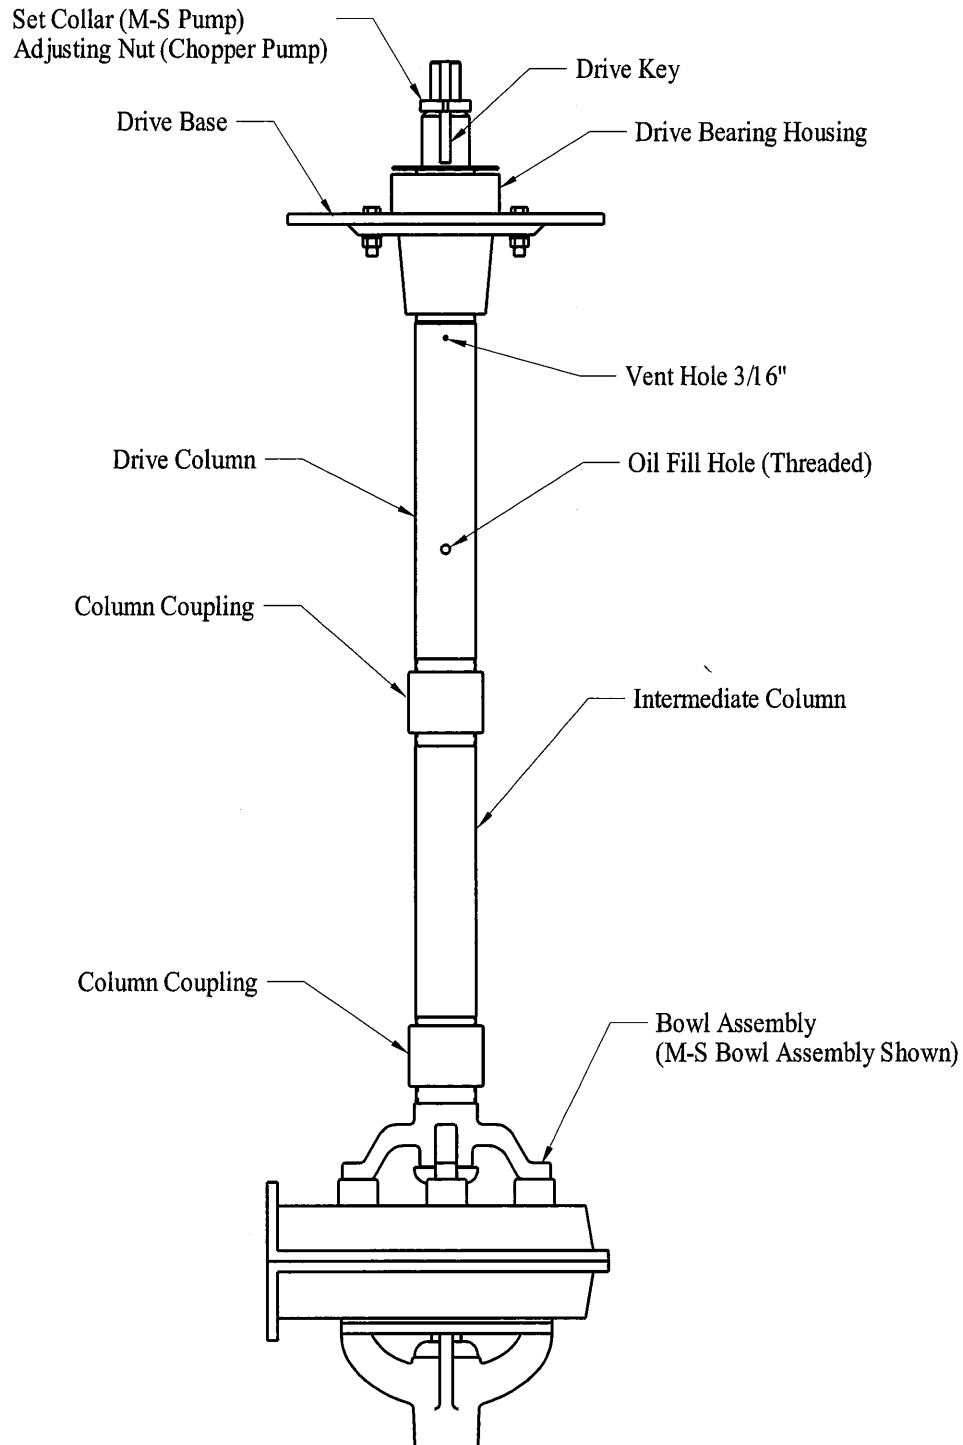

FIGURE 7.
19. Slide the set collar (M-S Pump), or thread the adjusting nut (Chopper Pump) on the drive shaft. Tighten one setscrew into the 1/2" key securely. The pump assembly will now look like the illustration in Figure 7. The number of intermediate columns and shafts will vary with setting length.